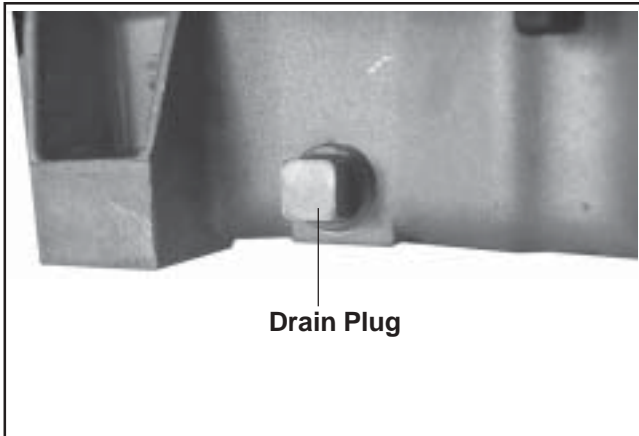

Figure 11-92. Install Oil Drain Plug(s).
4. Install the oil drain plug(s). See Figure 11-92. Torque plug(s) to **13.6 N·m (10 ft. lb.)**.